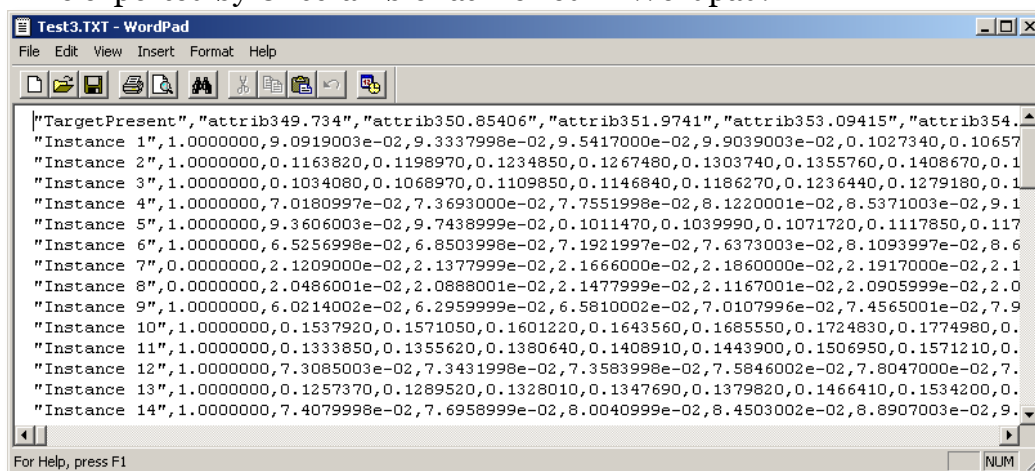

Figure 52: Text file exported by Unscrambler
5. Open the file exported by Unscrambler in a text editor; Figure 52 shows a text file exported by Unscrambler as viewed in Wordpad.